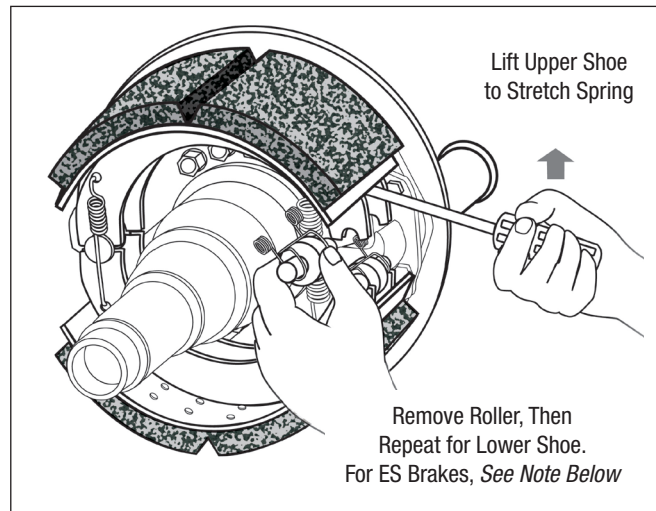

Figure 13 – Upper Cam Roller & Pin Removal
3. Using a large screwdriver or lever, lift the upper shoe to stretch the return spring as shown in Figure 13.